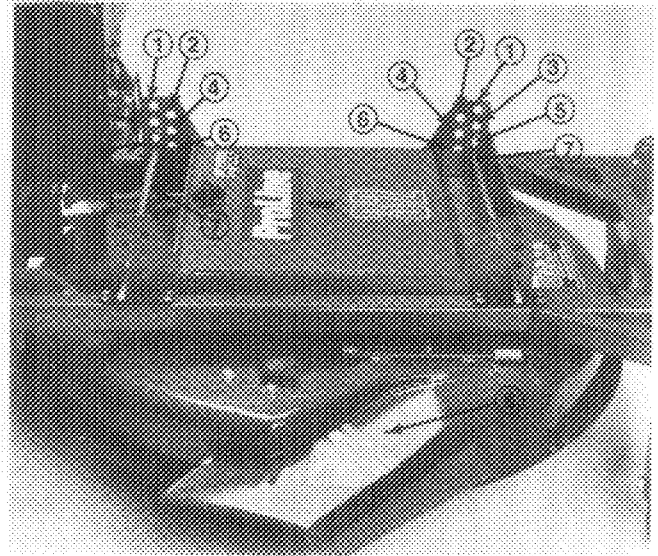

Figure 5
The height-of-cut is adjustable from 1 to 4 inches (25 to 102 mm) in 1/2 inch (13 mm) increments by relocating support rods in different hole locations in brackets at each corner of the cutting unit (Fig. 5).
1. Remove (4) hair pin cotters securing support rods in brackets (Fig. 5).
The grass deflector (Fig. 5) is a safety device that diverts grass and other foreign objects being discharged downwardly. **WE STRONGLY RECOMMEND THAT THE DEFLECTOR BE IN THE LOWEST POSITION WHENEVER THE MACHINE IS USED NEAR BUILDINGS OR WHEN THERE ARE PEOPLE OR ANIMALS IN THE AREA. THE BLADE CAN THROW DEBRIS A CONSIDERABLE DISTANCE WITH SUFFICIENT FORCE TO CAUSE PERSONAL INJURY OR DAMAGE TO PROPERTY. THE ONLY TIME THE DEFLECTOR SHOULD BE IN THE UPPER POSITION IS WHEN THERE IS NO POSSIBILITY OF INJURY OR DAMAGE. NEVER OPERATE CUTTING UNIT WITH DEFLECTOR REMOVED FROM CUTTING UNIT OR MOVED TO MORE OPEN POSITION. NEVER CHANGE DEFLECTOR HEIGHT WHEN THE BLADE IS TURNING.** If the grass deflector is damaged, repair or replace the affected part(s).